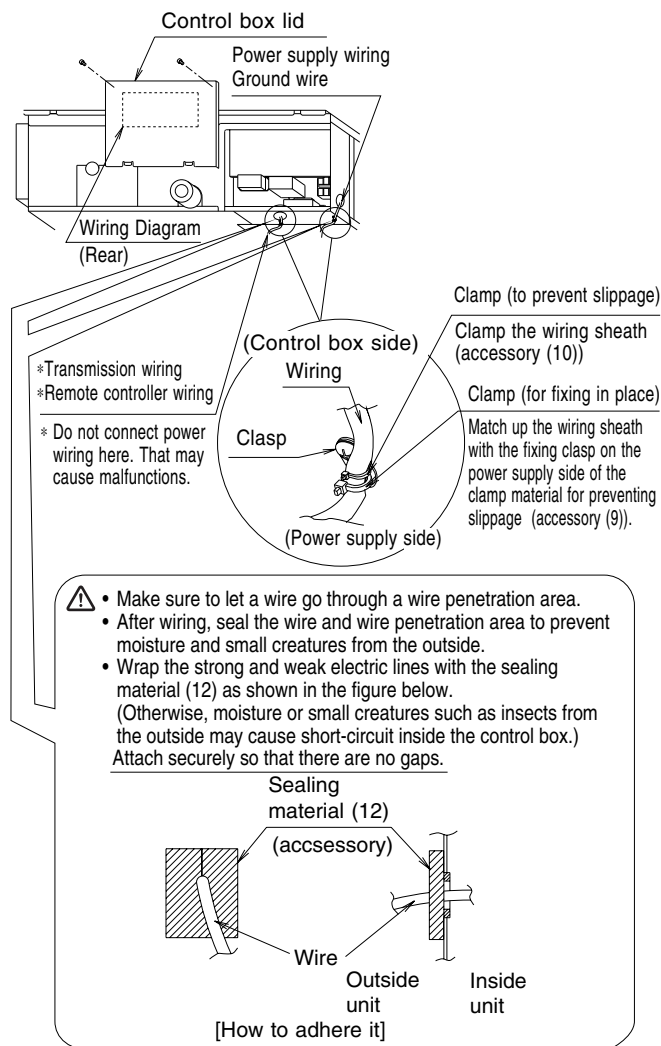

Fig. 14
Securely clamp the cables with the clamps (9)(10) offered as accessories as shown in Fig. 14 so that tension will not be applied on the cable connection areas.
- Wire only after removing the control box lid as shown in Fig. 14.
- When clamping the wiring, use the included clamp material (9) and (10) as shown in the Fig.14 to prevent outside pressure being exerted on the wiring connections and clamp firmly.